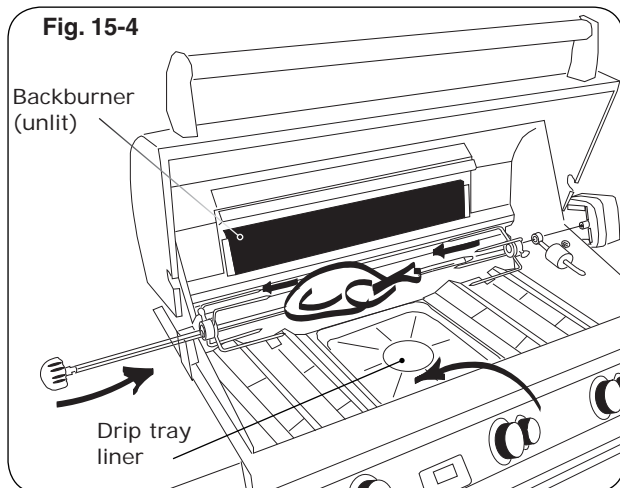

Fig. 15-4
4. Slide the left meat holder onto the rod (and tighten), the meat onto the rod and into the holder, followed by the right meat holder onto the rod and into the meat as shown in Fig. 15-4. Tighten the right meat holder. Be sure the meat is centered and balanced as well as possible.
11. To keep drippings off the burners and simplify cleanup, place Fire Magic® drip tray liners under the meat, if desired (Fig. 15-4).